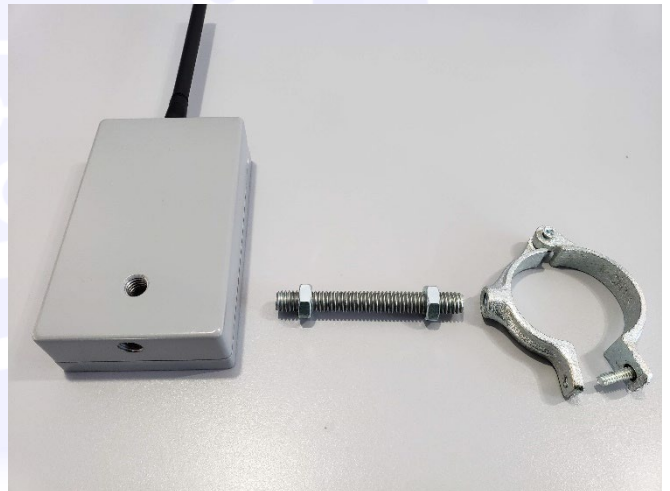

FIGURE 1
2. Preassemble 2 locknuts to the mounting stud as shown in (Figure 1)
3. Either monitor mount location can be used (bottom, back), (Figure 1)